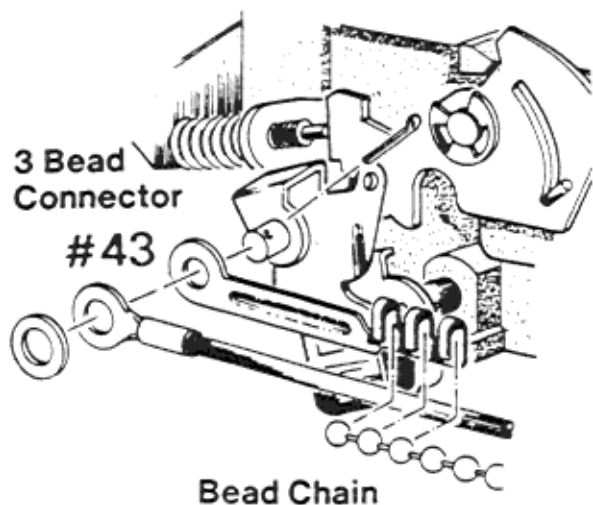

FIGURE 3
2. Locate vehicle's carburetor or fuel injection throttle linkage. Determine which supplied hardware from THROTTLE LINKAGE KIT 2, will best allow installation on your particular vehicle. (See Figure 3,4,5).